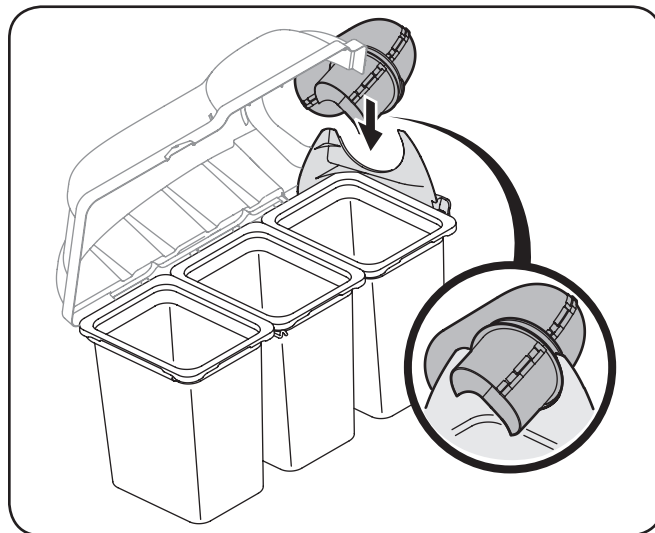

Figure 4-25
9. With the bagger cover open, install the upper chute over the chute adapter, and rest the top so that the chute support sits in the upper chute groove. See Fig. 4-25.
Note: Make sure to align the upper chute with the ridges on the bagger support bracket, as shown in the inset of Fig. 4-25.